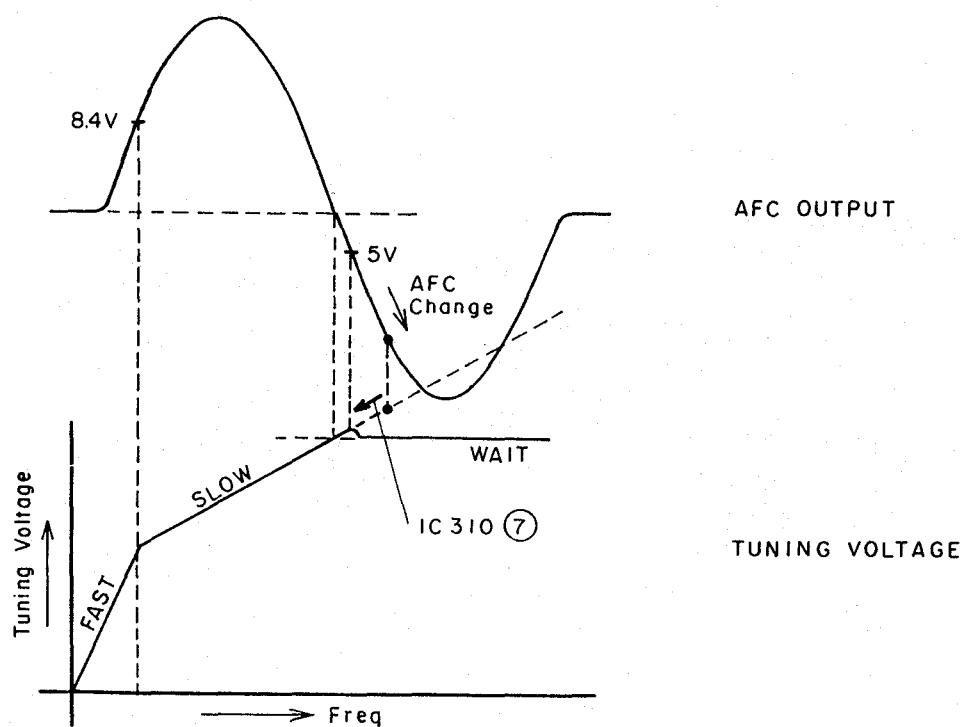

Fig. 31
- 12) FINE is processed by 4 bits within the microcomputer and outputted from IC307 ⑨ ~ ⑫ as 4 bit output. This data are converted into DC by simple D/A converter IC312 and added to the tuner to make fine adjustment when a TV station is received. At this time, AFT is already operation, and the operation is described. When AFT is OFF, IC311 ⑧ - ⑨ is ON, so to the adder the voltage produced in IC312 ⑦ by the voltage differentiated by R346 and R345 is added. When AFT is ON, IC311 ⑧ - ⑨ is OFF, and conversely IC311 ⑩ - ⑪ is ON, and to the IC312 ⑦, the voltage produced in IC312 ⑦ by the signal from AFC is added. If AFC voltage is reduced and the frequency is increased due to the temperature change, etc., IC312 ⑦ rises and IC310 ⑧ falls and the frequency is reduced. (Fig. 31). FINE is to change the center frequency of AFC and about  $\pm 300$  kHz of change is possible by  $\pm 3V$ .
- 13) By pressing the SET (Memorize) key, the memory output order is inputted into IC307. By this order, addressing is carried out by 8 bits of IC307 ⑬ ~ ⑳ (fixed by set channel), and then, the aforementioned 16 bit data (VT: 8 bits, Fine 4 bits, Band 2 bits, Flag 1 bit) are outputted from IC307 ㉓ ~ ㉟, as one word = 4 bits, and stored in IC308.